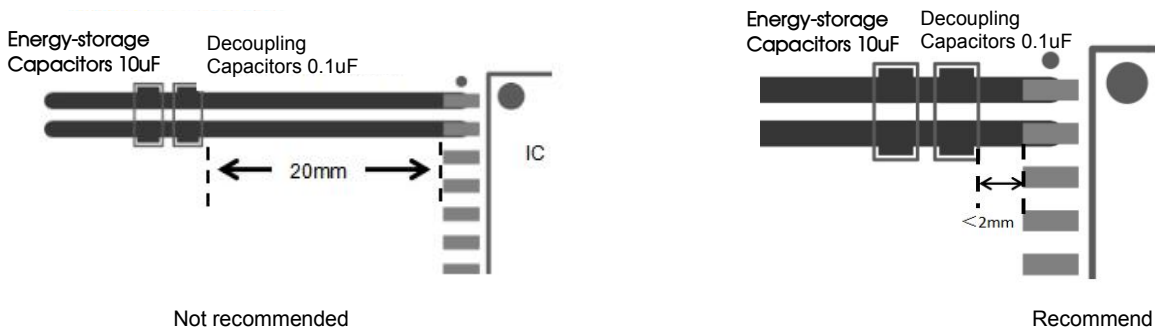

Figure 10-1
1. The decoupling capacitors and energy storage capacitors of VCC and GND1, VISO and GND2 should be placed as close to the chip pins as possible to reduce the loop area and parasitic inductance of PCB wiring. Generally, it should be controlled within 2mm. The decoupling capacitor is placed near the chip, and the energy storage capacitor is placed on the outside. As shown in Figure 10-1.